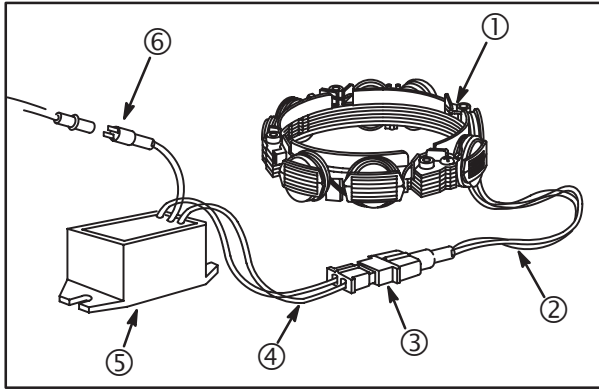

Fig. 26
1. Stator Assembly (1) – 10 or 16 amp DC regulated system, **Fig. 26**.